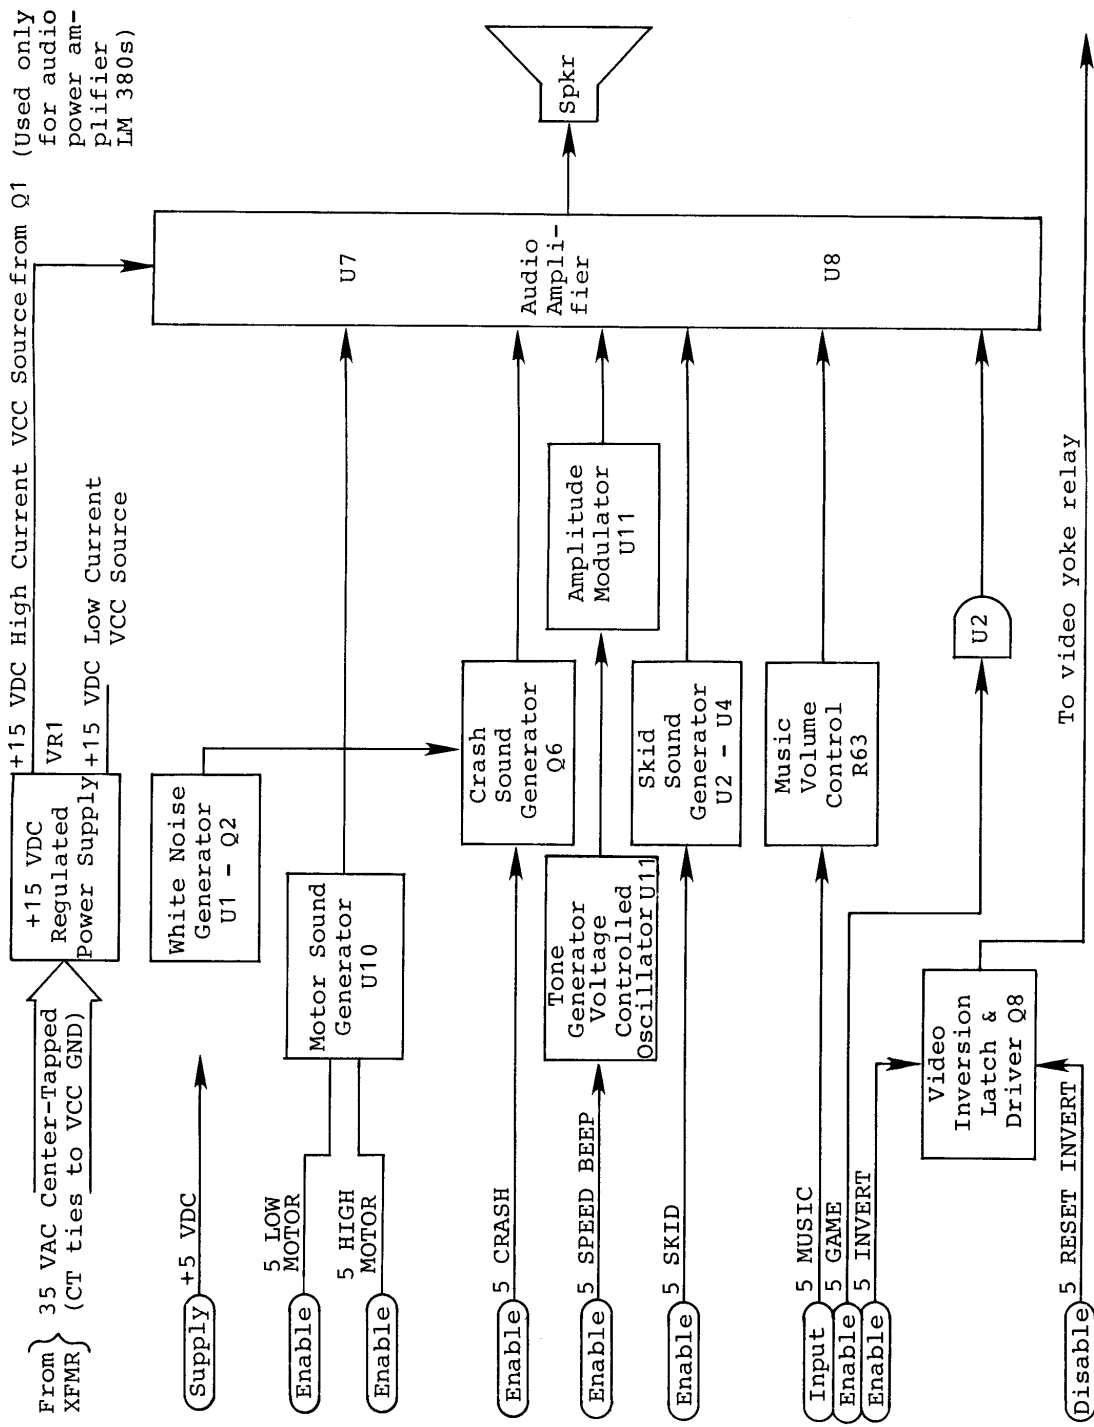

Figure 9: Audio Board Block Diagram
B. Audio Description and Operation (see Figure 9)